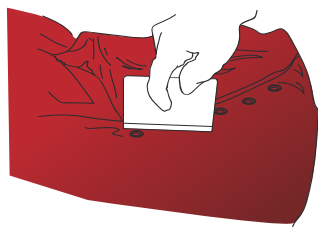

Figure 18
- › Then slide the ROLLRIV over the film to make it adhere to the entire rivet surface. Press it all around the rivet using a squeegee or your thumb. (FIG. 18)